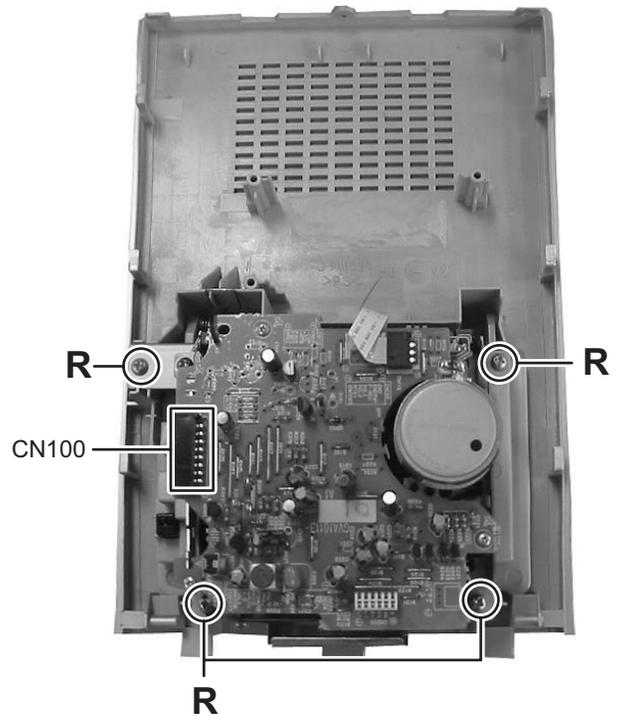

Fig.5
3.1.3 Removing the top cover (See Fig.5)
(See Fig.5)
3.2.4 Removing the CD servo board (See Fig.5 and 6)
- (1) Remove the two screws **D** attaching the CD servo board from bottom side of traverse mechanism assembly. (See Fig.5)
- (2) Remove the solder from solder part **e** of the CD servo board. (See Fig.5)
- (3) Remove the yellow wire from solder part **f** of the CD servo board. (See Fig.5)
- (4) Remove the white wire from solder part **h** of the CD servo board. (See Fig.5)
- (5) Remove the CD servo board to upper side, disengage the hook **c** to direction of the arrow 1 then turn over the CD servo board. (See Fig.5)